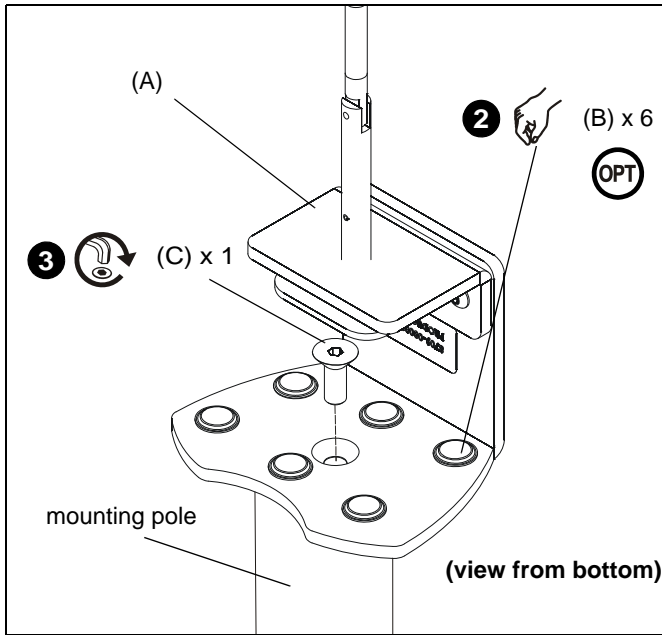

Figure 1
1. Remove adhesive from underside of bumpers (B).
2. Attach bumpers (B) to underside of desk clamp. (See Figure 1)
3. Use 7/32" hex key (E) to install 3/8-16 x 1" flat head cap screw (C) through the opening on top of desk clamp (A) and into bottom of mounting pole (not included). (See Figure 1)